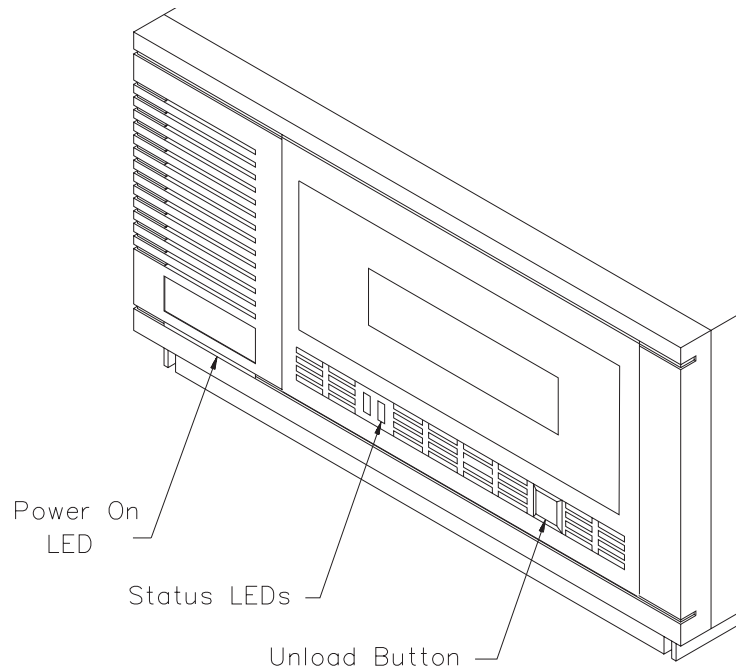

Figure 1-3 Front panel of the Tabletop CTS (EXB-8200 shown)
- Figure 1-3** Front panel of the Tabletop CTS (EXB-8200 shown) . . . . . 1-5
This section describes the controls and indicators on the front panel of the Tabletop CTS. The front panel includes the power-on LED, two status LEDs, and an unload button. Figure 1-3 shows the controls and indicators on the front panel of the Tabletop CTS, with an EXB-8200 installed.
**Note:** Figure 1-3 shows the location of the unload button for an EXB-8200. The unload buttons for the EXB-8500 and EXB-8500c are in a different location. See the *EXB-8500 and EXB-8500c 8mm Cartridge Tape Subsystems Product Specification* for more information.